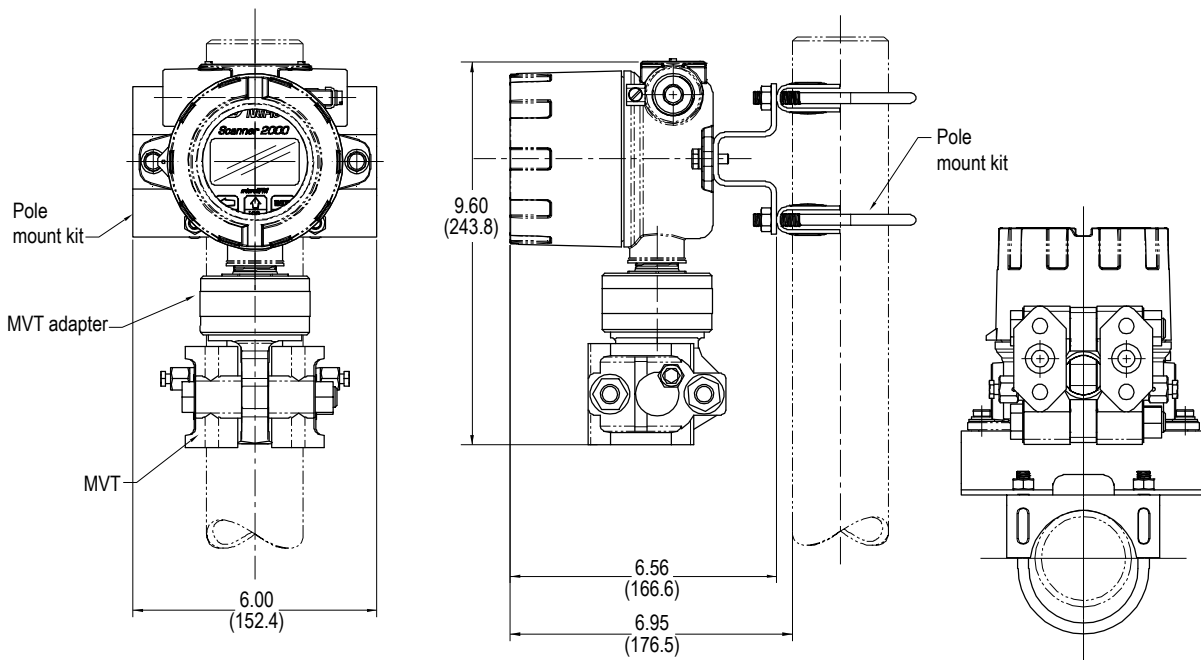

Figure 2.4—Scanner 2000 with MVT, remote-mounted on a 2-in. pole using a NuFlo hardware kit (Part No. 9A-30028004)
- Pole-mount. The instrument can be mounted on a 2-in. pole using a NuFlo hardware kit, or bulkhead-mounted to a flat, vertical surface (Figure 2.4, page 29). Pole mounting may be preferred where limited space or pipe vibration prohibits direct-mount installation. A horizontal pipe mount is recommended for liquid and steam installations using a side-port MVT and block manifold. Tubing is used to connect the integral MVT to the orifice meter or cone meter. If a Scanner 2000 will be used for steam measurement, a condensate pot must also be installed to protect the Scanner 2000 from extreme temperatures. See Measuring Steam via a Differential Pressure Meter, page 39, for details.
2. Connect the mounting bracket to the Scanner 2000 using the two bolts provided (Figure 2.4, page 29).
Important The vertical pipe mount configuration shown in Figure 2.4 is not recommended for side-port MVTs when mated with a block manifold for liquid or steam measurement. A horizontal pipe mount should be considered for these installations.